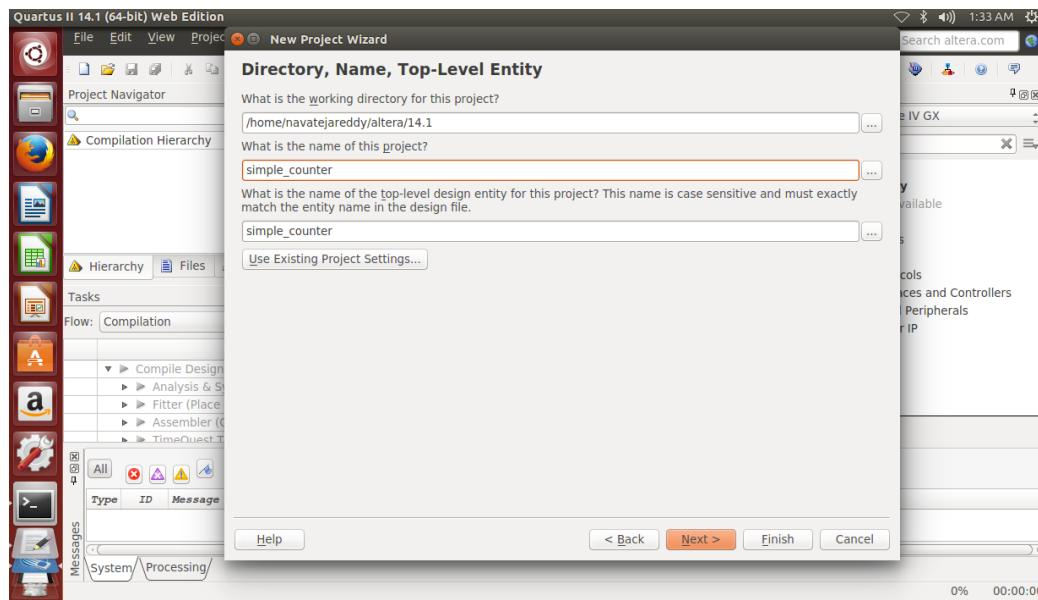

fig 3.1.2
2. Give the name of the project. The top-level entity takes the same name as project. In case of this demo the name of project and top-level entity is **simple_counter**. See the fig 3.1.2